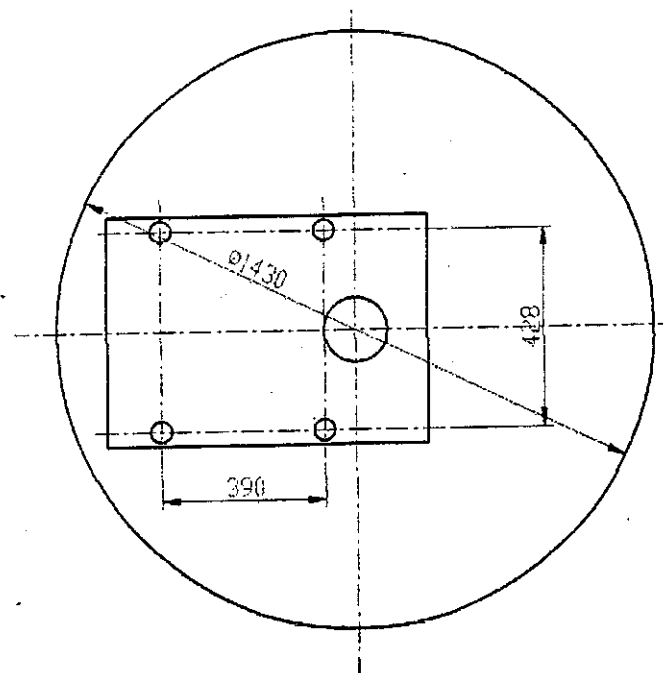

Fig. 2 Dimension of the foundation
- 4.2.1 Take the work table as Radius, go 360° around the column would be the max. area of the foundation. The diameter of the foundation is 1430mm. See Fig. 2. Customers can decide the foundation area according to their own needs.